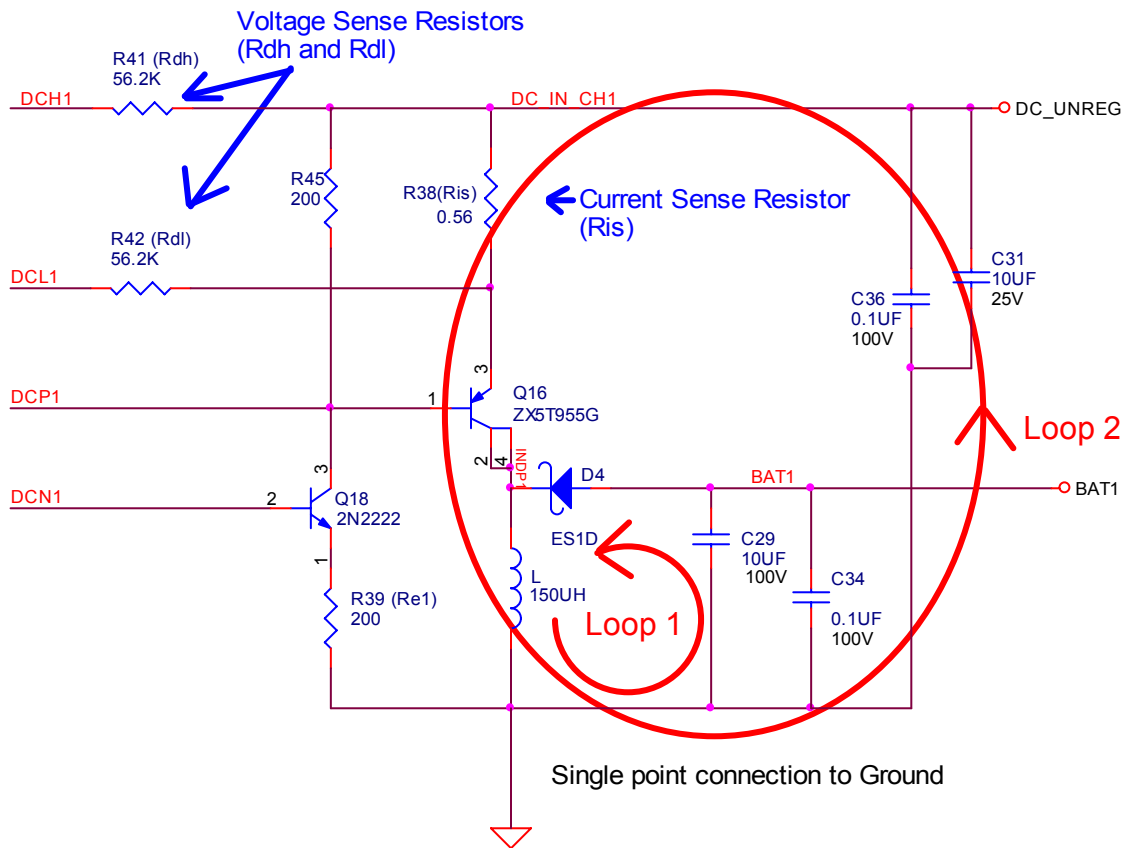

Figure 1. DC-to-DC Converter Circuit
Loop 1 in Figure 1 is the secondary fly-back current path that generates the negative VBAT potential. Place the components in this area in a tight loop. Cover the open areas in between with as much copper as possible.
Loop 2 in Figure 1 is the primary input current loop for the DC-to-DC converter from the unregulated power supply. Place the capacitors in this area near the sense resistor to maximize results.
12. Each DC-TO-DC converter must have a separate ground trace leading back to the supply as shown in Figure 1.